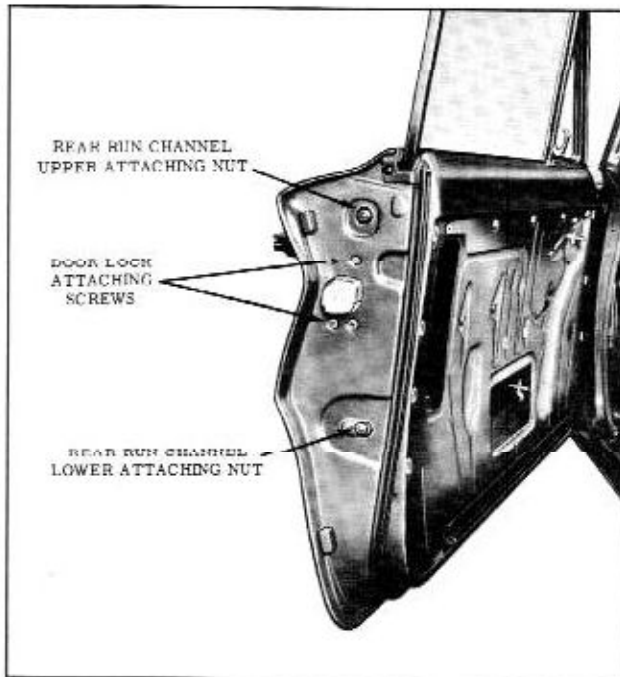

Fig. 15-19 Run Channel Attachment ('67' Style)
2. To adjust the window in or out at rear section, loosen rear run channel lower attaching nut, adjust as required, and tighten nut. (Fig. 15-19)
4. Remove bolts securing run channel to lock pillar panel and remove run channel from door. (Fig. 15-19)